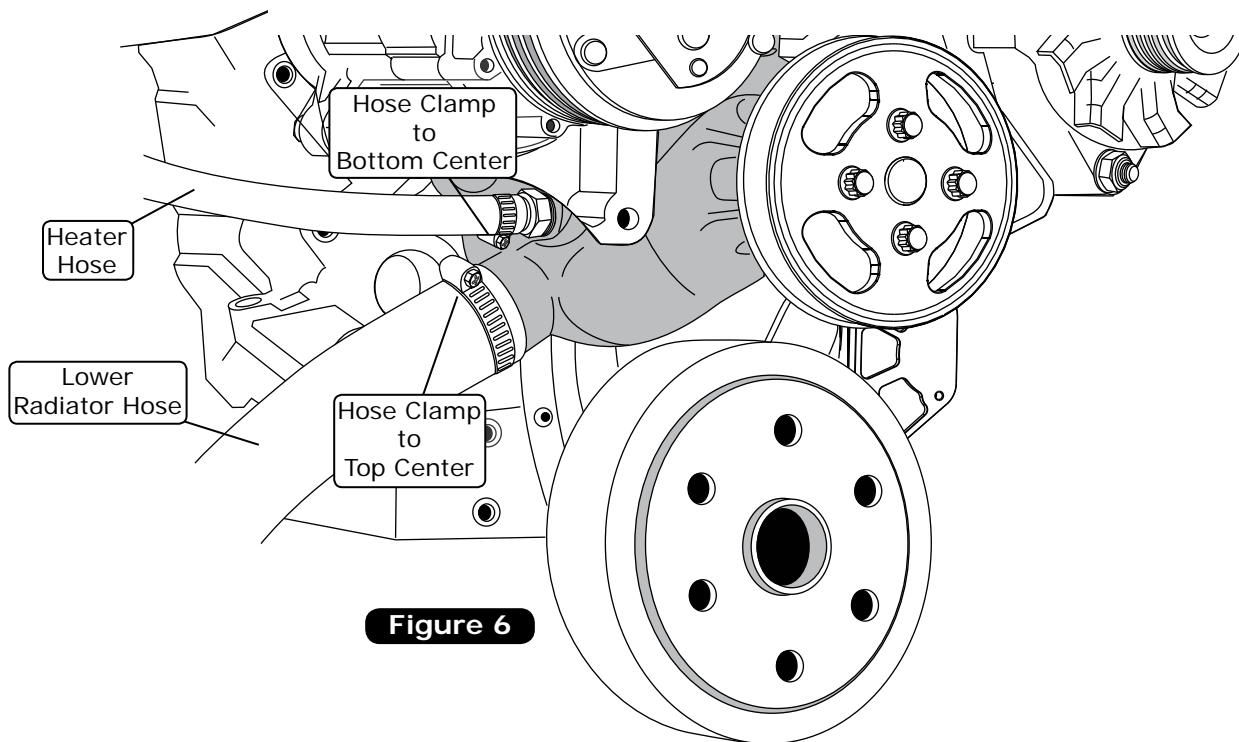

Figure 6
1. Install the heater hose. **NOTE:** Hose clamp location and position should be as shown in Figure 6, below.
2. Install the lower radiator hose. **NOTE:** Hose clamp location and position should be as shown in Figure 6, below.